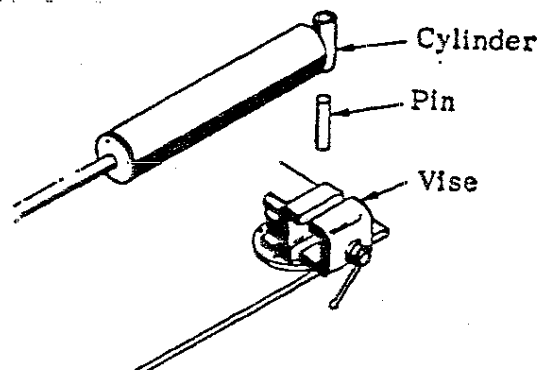

Figure F-1. Securing Cylinder
3. Place the cylinder on a flat surface near a vise. Slip a pin through the pin boss and clamp the pin in the vise (Figure F-1).
5. Secure the rod pin boss in the same manner as the base pin boss (Figure F-1).
13. Secure the rod as shown in Figure F-1 and screw the piston onto the rod by hand. You should be able to get the piston almost all the way onto the rod before using the spanner wrench.
18. Secure the cylinder (Figure F-1) and torque the head in the same manner as the piston.